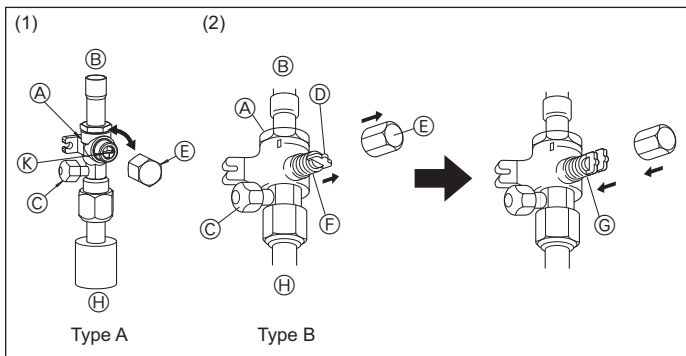
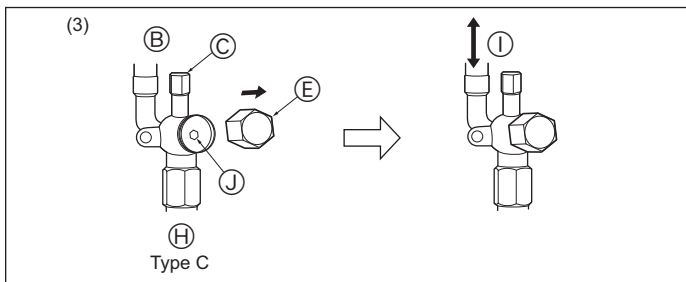

Fig. 5-9
Fig. 5-10
(1) Type A (Fig. 5-9)
- ① Remove the cap, then turn one-quarter rotation counter-clockwise with a flat-bladed screwdriver to complete open.
- ② Check that the valves are fully open, then return the cap to its original state and tighten it down.
(2) Type B (Fig. 5-9)
- ① Remove the cap, pull the handle toward you and rotate 1/4 turn in a counterclockwise direction to open.
- ② Make sure that the stop valve is open completely, push in the handle and rotate the cap back to its original position.
(3) Type C (Fig. 5-10)
- ① Remove the cap and turn the valve rod counterclockwise as far as it will go with the use of a 4 mm hexagonal wrench. Stop turning when it hits the stopper.
- ② Make sure that the stop valve is open completely and rotate the cap back to its original position.